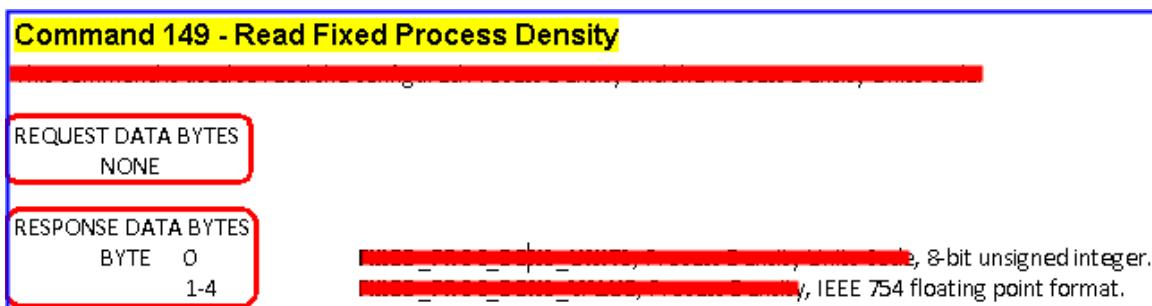

Figure 11-1 : The HART command No.149 format of Emerson 8800D
1. Users must get the HART Device-Specific command first. The HART command No.149 format of Emerson 8800D is like Figure 11-1.